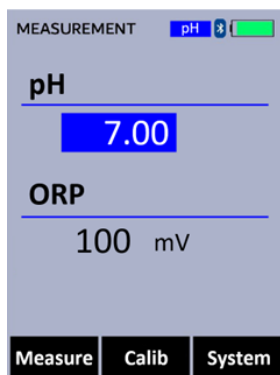

Figure 46.
4. Once the measurements are completed, the values will be displayed and the prompt message will disappear (Figure 46).